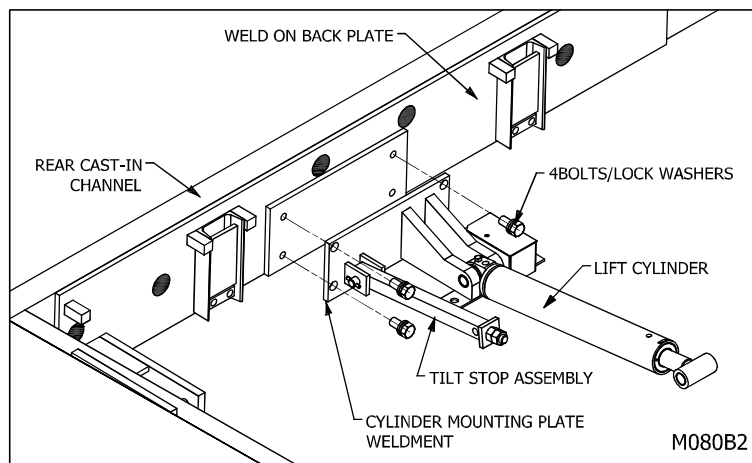
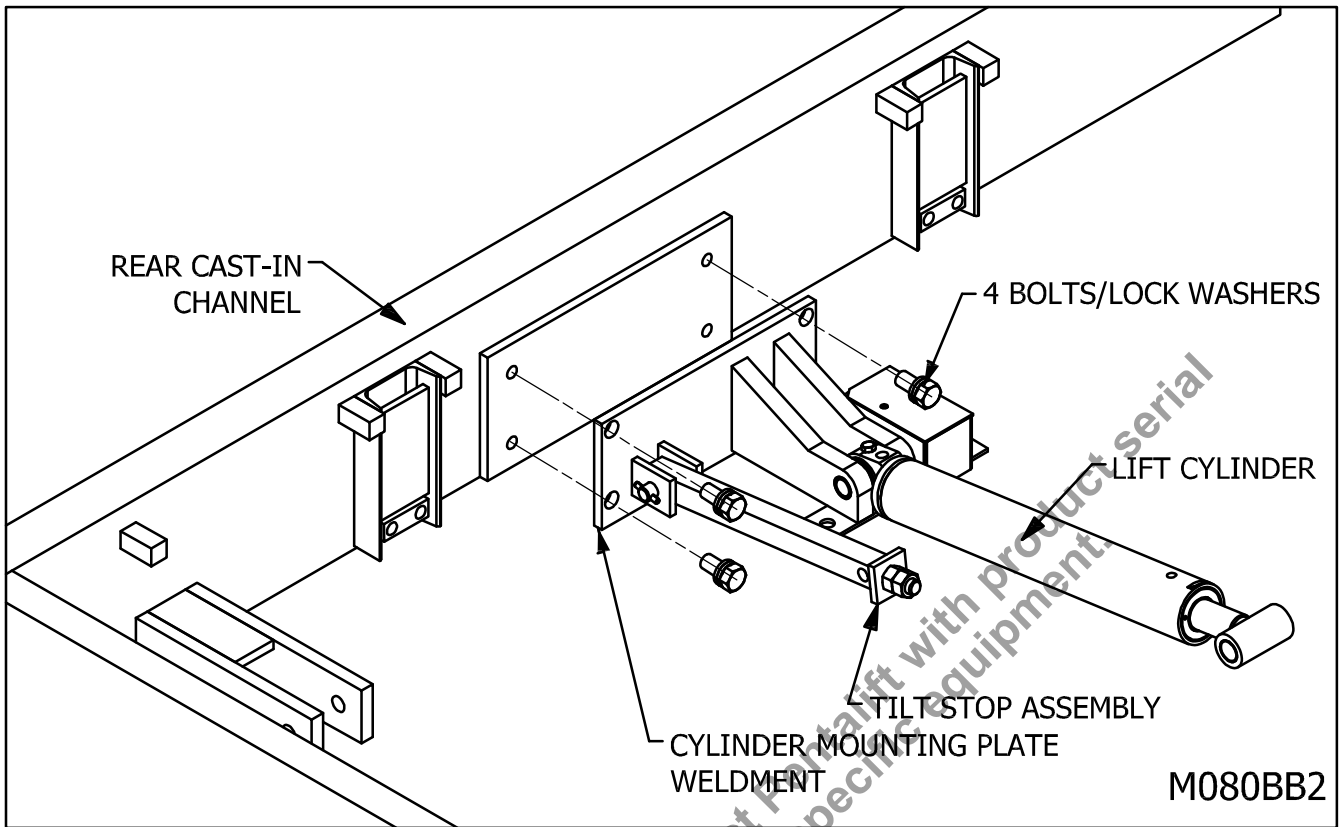

Figure 9: Fasten Cylinder Mounting Plate to Welded on Back Plate
Figure 10: Fasten Cylinder Mounting Plate Weldment to existing Rear Cast-in Channel
3. Position the Cylinder Mounting Plate onto the Weld on Back Plate as indicated in “Figure 9: Fasten Cylinder Mounting Plate to Welded on Back Plate” on page 20.
2. ___ Fasten Cylinder Mounting Plate to Welded (see “Figure 9: Fasten Cylinder Mounting Plate to Welded on Back Plate” on page 20) on Back Plate or Fasten Cylinder Mounting Plate Weldment to existing Rear Cast-in Channel (see “Figure 10: Fasten Cylinder Mounting Plate Weldment to existing Rear Cast-in Channel” on page 21) depending on the installation type.